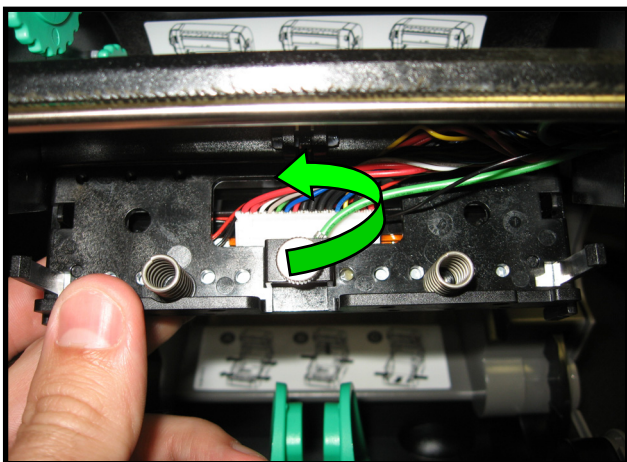

Figure 5
- 5.) Remove the printhead screw (Fig 5)